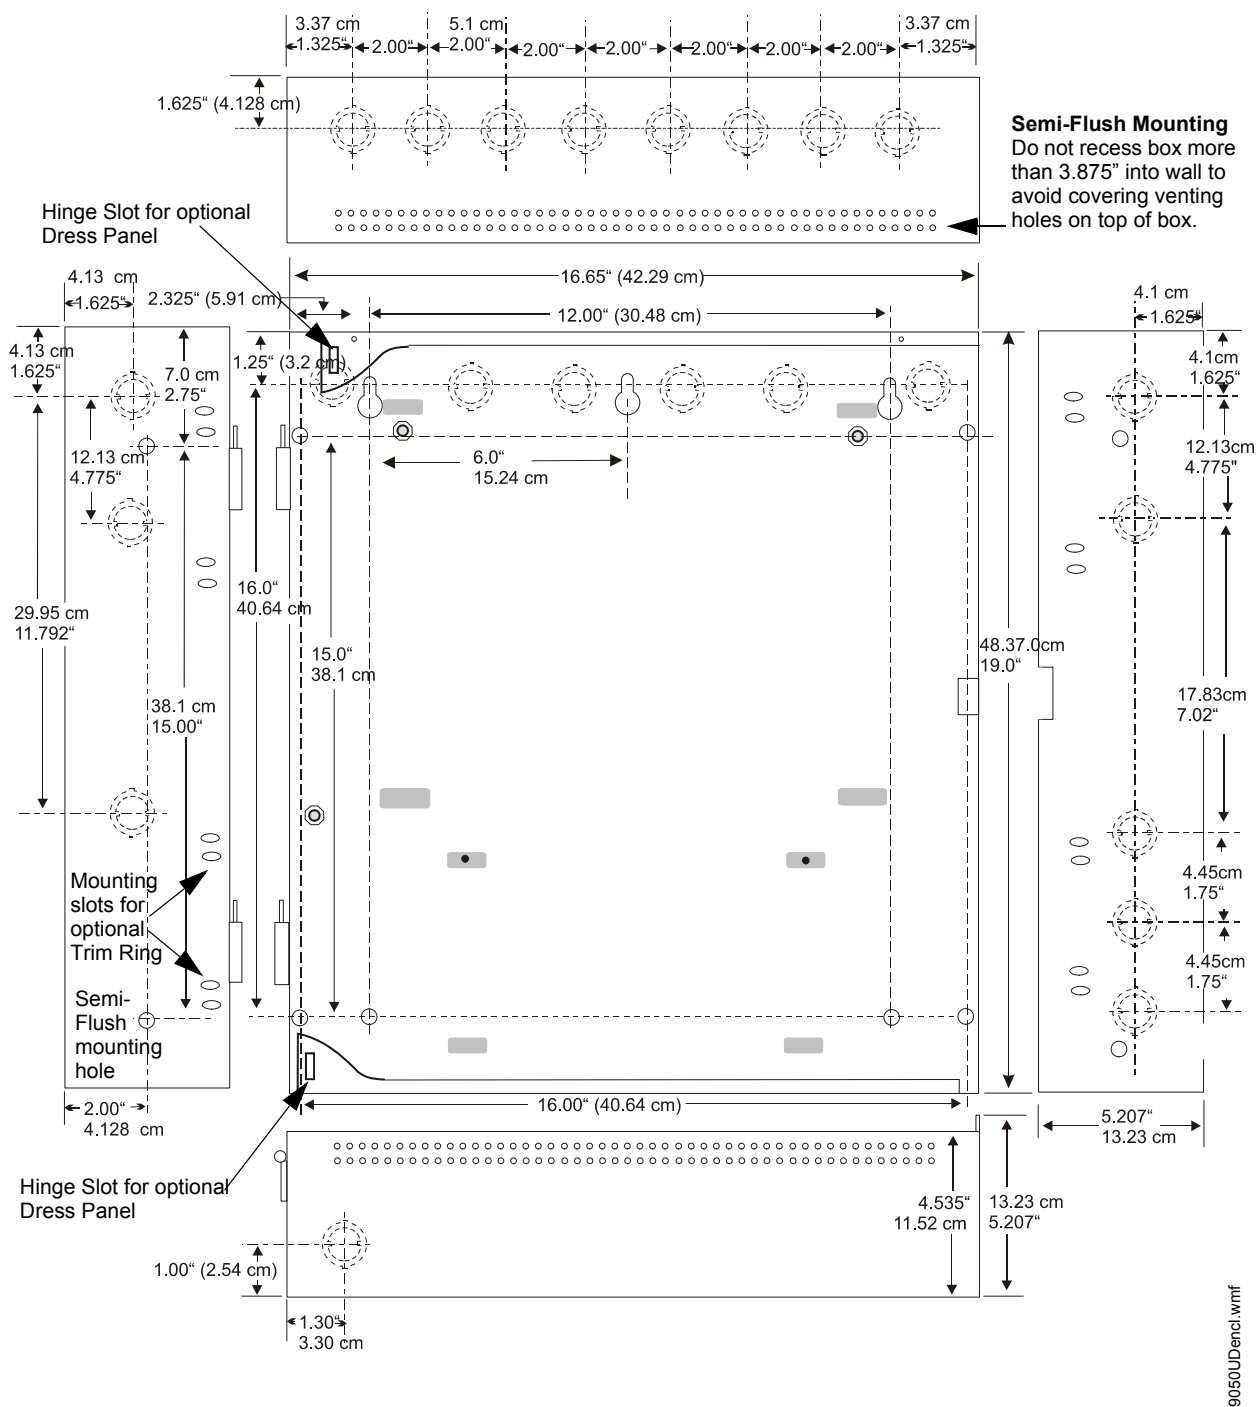

Figure 2.2 Cabinet Dimensions
1. Mark and predrill hole in the wall for the center top keyhole mounting bolt using the dimensions illustrated in Figure 2.2 on page 20.